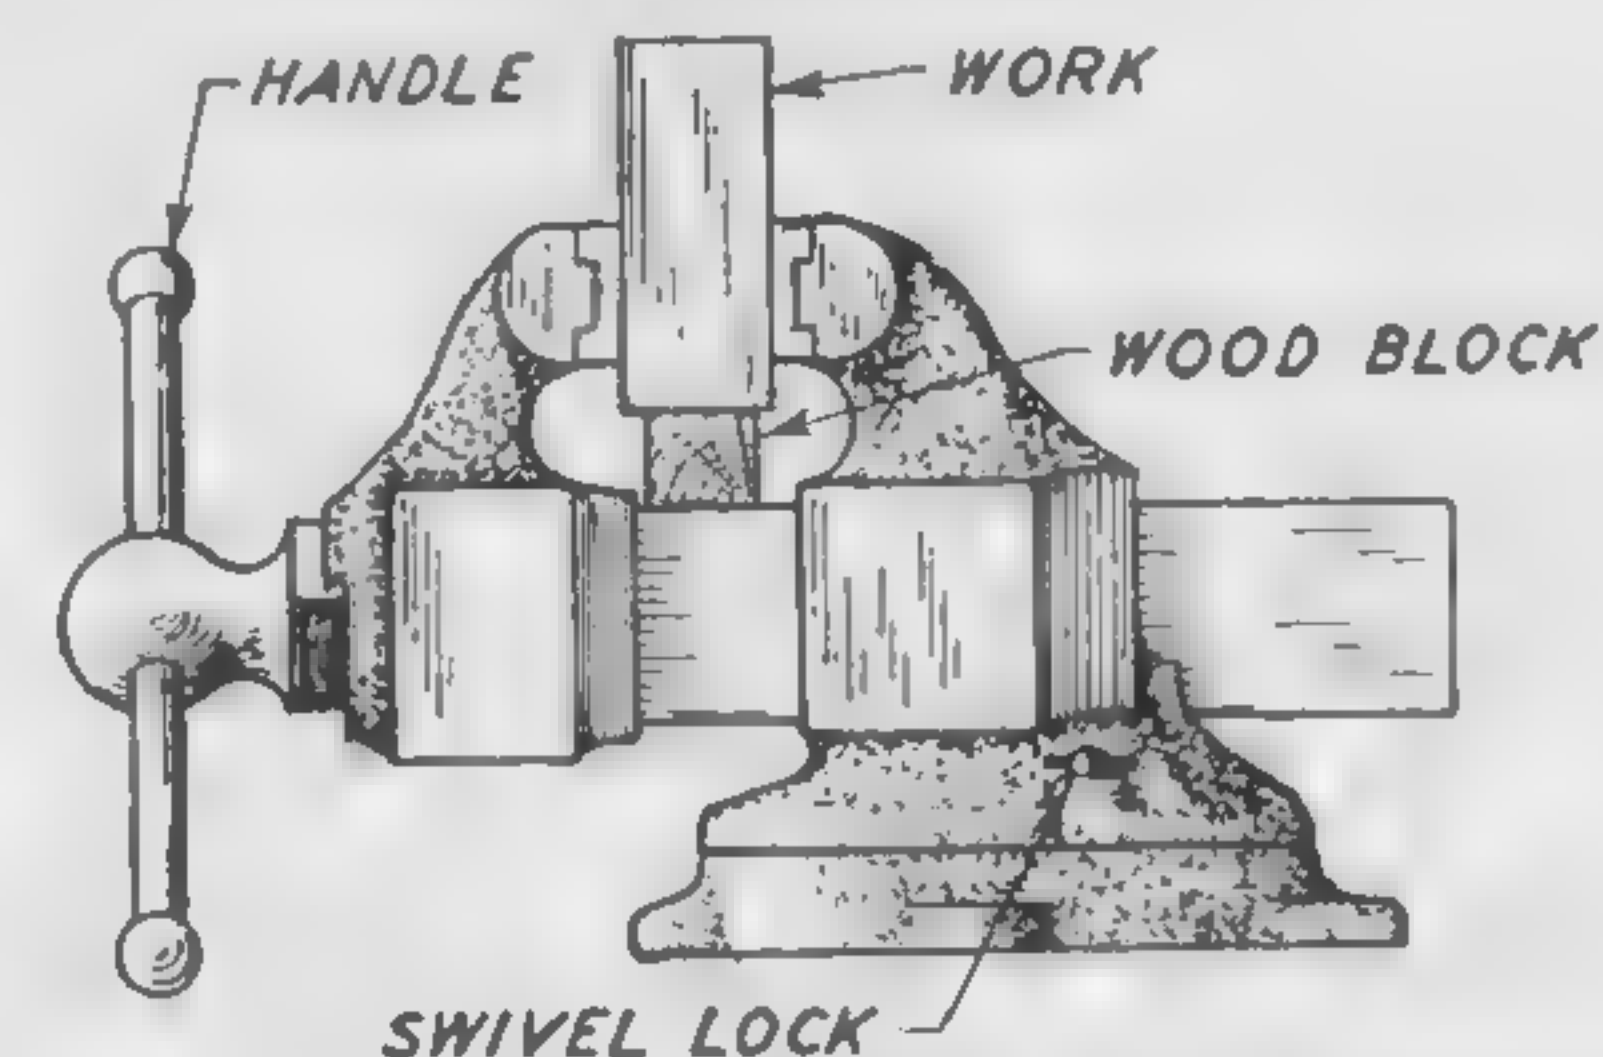

Fig. 15. Correct Way to Hold Work in a Bench Vise
3. Place a block below the work, as shown in Fig. 15, to keep it from slipping down between the jaws.